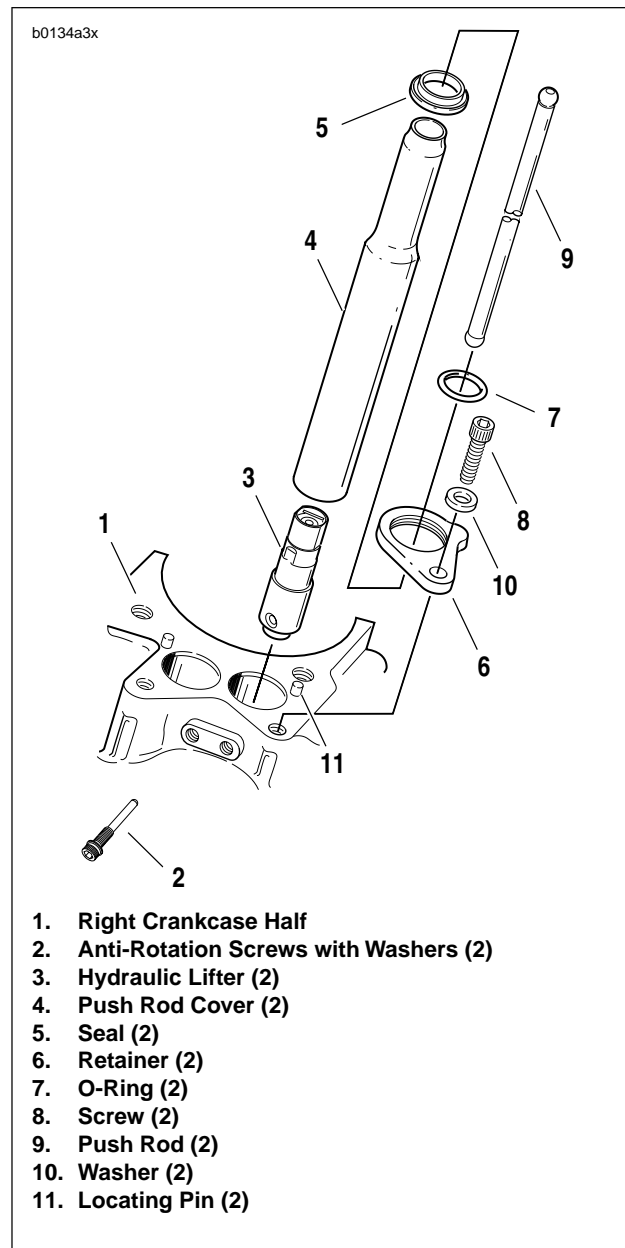

Figure 3-58. Hydraulic Lifter Service
3. See Figure 3-58. Remove both push rod covers (4).
- a. Remove screw (8) and washer (10).
- b. Lift retainer (6) and seal (7) upward a few inches on push rod cover (4).
4. Remove both hydraulic lifters (3).
- a. Remove two anti-rotation screws with washers (2).
- b. Remove lifters (3) from crankcase bore using a thin-bladed screwdriver. Mark the location and orientation (front/back) of each lifter.
3. See Figure 3-58. Insert lifter (3) into bore in crankcase (1) with lifter oil hole facing towards the oil trough. Rotate lifter so that flats at upper end of lifter faces the front and rear of the engine. If the lifter is installed incorrectly, anti-rotation screws (2) cannot be inserted.
- a. Insert anti-rotation screws with washers (2) in the threaded holes in crankcase.
- a. Slide **new** seal (5) and retainer (6) over top of push rod cover (4).
- b. Position **new** O-ring (7) at top of push rod cover.
- d. Lower retainer (6) with seal (5) onto crankcase, aligning locating pin (11) with hole in retainer.
- e. Insert screw (8) with washer (10) through hole in retainer (6). Thread screw (8) into tapped hole in crankcase. Tighten to 15-18 ft-lbs (20-24 Nm).